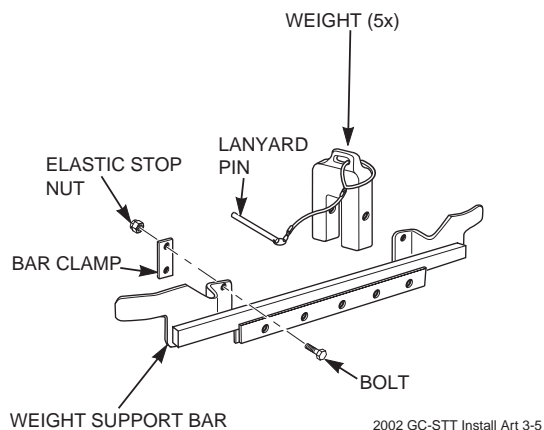

FIGURE 3-6
21. Install the weight support bar to the front of the machine by resting it directly on top of the caster support arms and sliding it tight against the frame of the machine. Secure the weight bar to the machine using (2) bar clamps, (4) 3/8-16 x 1-1/2" bolts and (4) 3/8-16 elastic stop nuts. See Figure 3-6.
22. Install the weight assemblies to the weight support bar and secure them to the bar using the 1/2"x 6-1/4" pin and lanyard. See Figure 3-6.